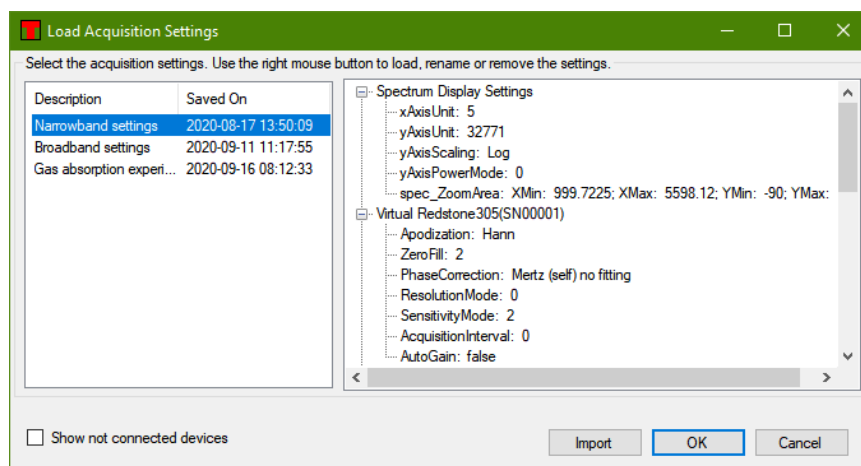

Figure 53. Load Acquisition Settings Dialog
2. Clicking on the “Load Settings” button will bring up the “Load Acquisition Settings” dialog (see Figure 53). This allows for the inspection of the settings behind a saved name before loading the settings. It is also possible to rename or delete a stored parameter setting from the menu that is displayed when right clicking on any element on the list.